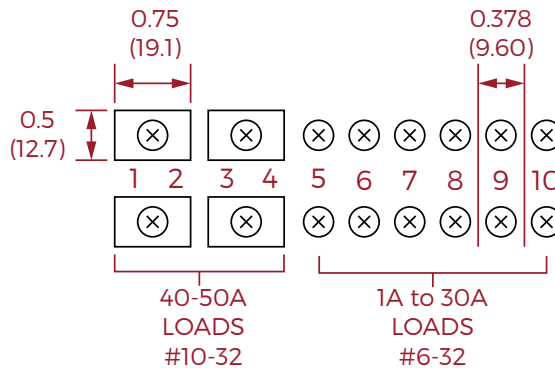

Figure 7. Output Barrier Strip Detail
Each terminal is a no. 6-32 screw and is rated at 30 amperes. Wire sizes from no. 10 AWG up to no. 22 AWG may be used for connections. Figure 7 below shows detailed spacing of the terminals.
11.2 Power Connections. Input connections should be made with one- or two-terminal crimp type lugs using copper wire size from no. 1 to 8 AWG, depending on current and wire loop distance. See Sections 9.2 and 9.3. Output connections are made to the barrier terminal strips. See Section 9.4 and Figure 7.